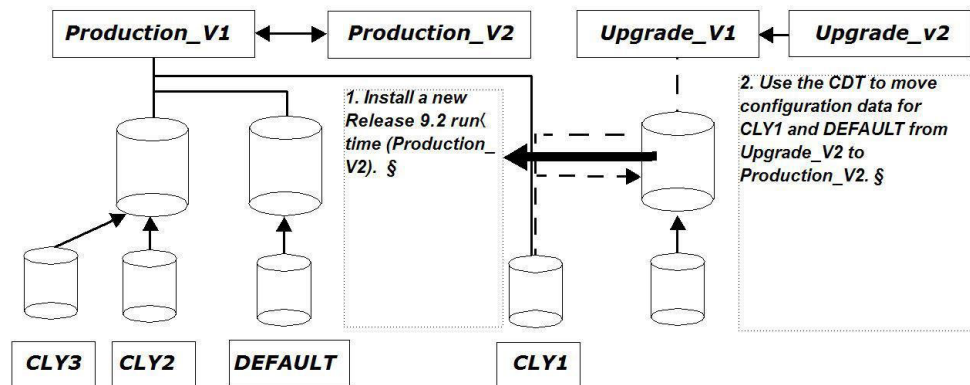

Figure 9. Return CLY1 to Original Multischema Environment
In this example, return an upgraded version of CLY1 to the original multischema deployment by performing the following tasks, as shown in Figure 9:
2. Use the CDT to move configuration data for CLY1 and DEFAULT from Upgrade_V2 to Production_V2. The database pointers for CLY1's schemas are redirected from Upgrade_V2 to Production_V2, as shown in Figure 9. The schemas include CLY1's TRANSACTION/MASTER schema. However, CLY1's METADATA schema points at the Production_V1 schema.
Production_V2 is the new version upgrade environment. Production_V2 is a multischema deployment with CLY1 running on Release 9.2. CLY2 and CLY3 are running on Release 9.1. All the customizations and postmigration activities are performed on the new upgrade environment, as shown in Figure 9.